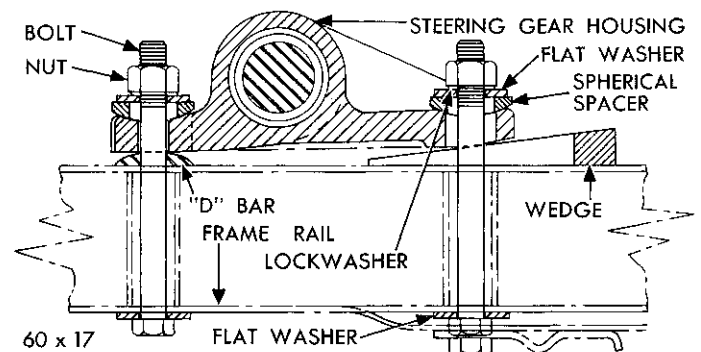

Fig. 6—Steering Gear (Mounting on Frame)
(1) Enter the steering gear assembly into the engine compartment and through the opening in the floor panel. Install the housing attaching bolts with the "D" bar between the frame and the forward mounting pad of the housing (flat of "D" against frame, Fig. 6).
(2) Install the flat washers, spherical washers and nuts, but do not tighten. Concave side of spherical
(8) Install the steering wheel and the steering wheel nut. Tighten the nut to 40 foot-pounds torque.
(9) Measure the distance between the steering column jacket tube and the steering wheel, if less than $\frac{1}{8}$ inch, loosen the clamp bolts and adjust the column jacket to obtain the proper clearance. Tighten clamp bolts to 15 foot-pounds torque.
(10) Install the stationary plate, bushings, horn ring and attaching screws. Connect the horn wire at the stationary plate and install the steering wheel ornament.
(11) Tighten the jacket tube to the instrument panel clamp screws and install the jacket tube dust shield.
(12) Tighten front upper and lower gear housing to frame attaching bolts to 20 foot-pounds torque.
(13) Install a wedge over the rear bolt (Fig. 6) between the housing and the frame so that the tapered surfaces match, tapping it lightly in place and tighten the three attaching bolts to 50 foot-pounds torque. Tightening should be done by alternately tightening.
(14) Install steering gear arm, washer and nut. Tighten to 125 foot-pounds torque.
(15) Reinstall the brake line between the master cylinder and brake tee. Bleed brakes as necessary.
- (1) Tighten the body mounting bolts at the front frame outrigger and the front frame rear cross-member.
- (2) Loosen the steering gear at the frame and the dash support bracket to allow the steering gear to move in relation to the frame.
- NOTE:** Make sure the pivot ("D") bar at the front end of the steering gear housing is between the housing and the frame with the flat side of the bar against the frame and the concave side of the spherical washers must be against the housing (Fig. 6).
- (3) Tighten the two front mounting bolt nuts finger tight and just start the rear mounting bolt nut on the threads.
- (4) Tighten the jacket tube clamp at the gear housing to 15 foot-pounds torque.
- (5) Position the steering column jacket tube in the instrument panel jacket support and tighten the screw to 50 inch-pounds torque.
- (6) Install the wedge between the steering gear housing and frame at the rear mounting bolt, so that the tapered surface of the wedge matches with the taper of housing.